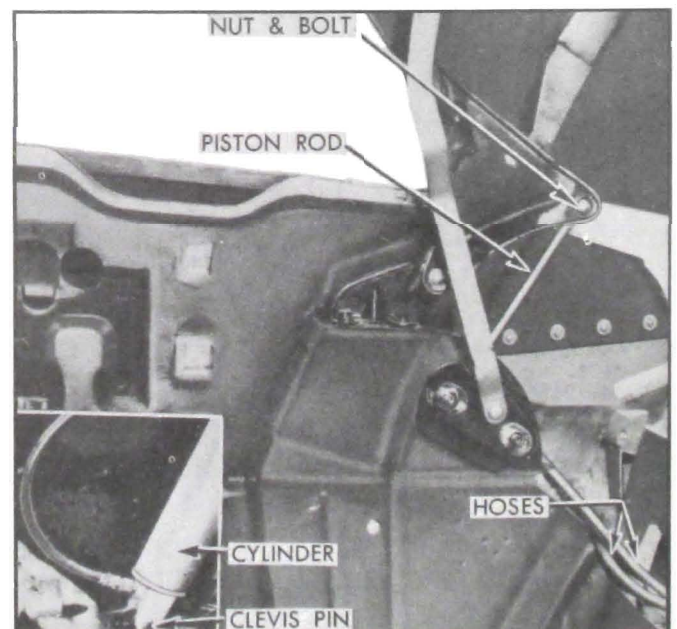

Figure 13-11—Lift Cylinder Connections
3. Remove nut and bolt that connects lift cylinder piston rod to folding top linkage (fig. 13-11), then manually push piston rod down until piston is at bottom end of cylinder.